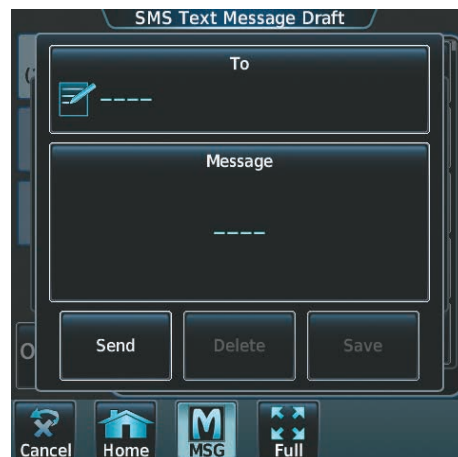

Figure 8-73 Touch 'To' Window
- 3) Touch the **Draft New Message** Button. The SMS Text Message Draft Screen is displayed as shown in Figure 8-73. The Draft New Message option is also available from within the **Drafts** and **Outbox** Tabs.